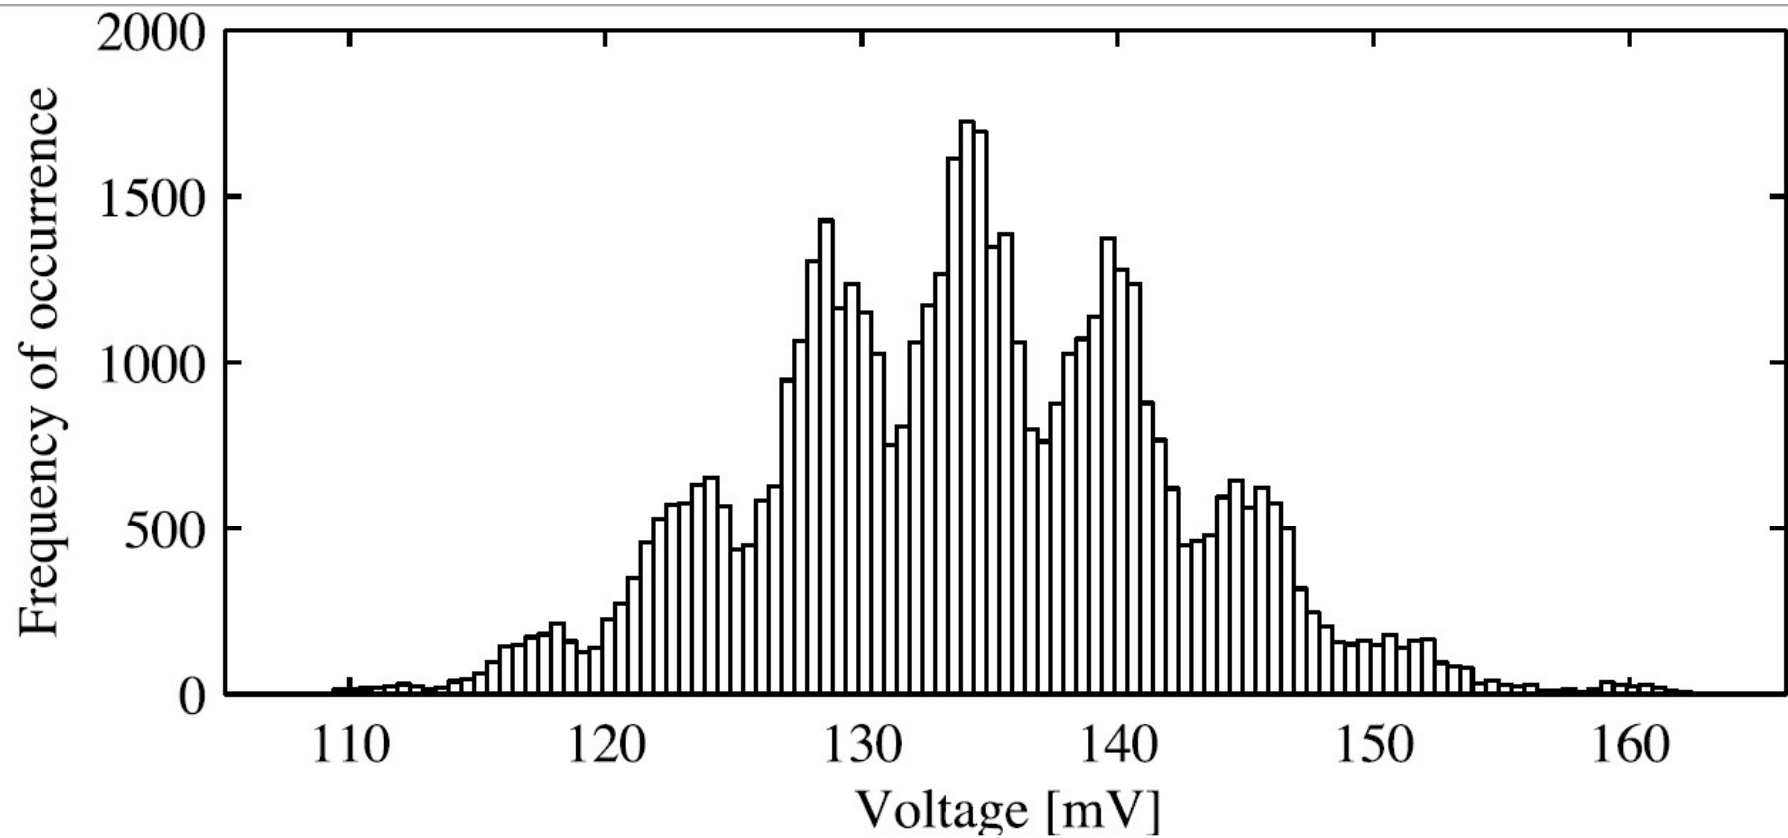

Figure 4.4. Histogram of the power consumption at 362 ns if different data values are transferred from the internal memory to a register.
Histogram Comments on Figure 4.4
Explanation for Figure 4.4
- Figure 4.4 shows the result where the sum under the curve results in a total of 1 (i.e., the sum of the probabilities sums to 1)